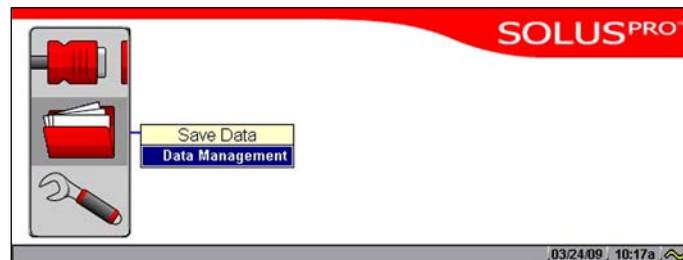

Figure 5-37 Data Management menu option
2. Select the **Data Management** option (Figure 5-37).